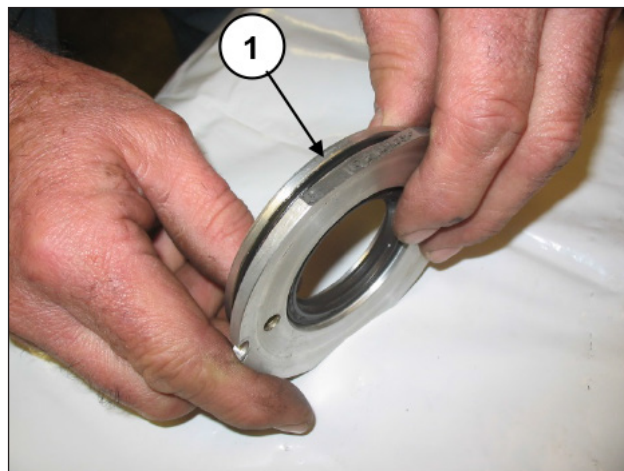

Fig. 118
Position the O-ring (pos. ①, Fig. 118) in the seat of the oil seal cover and insert the assembly mounted in the casing into the seat.